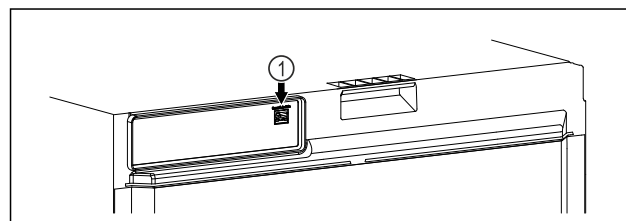

Fig. 106
- ❑ SmartModule Fig. 106 (1) is inserted.